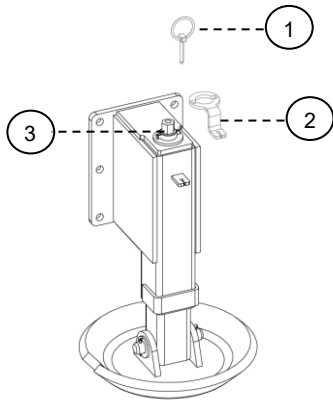
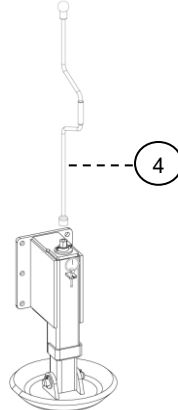
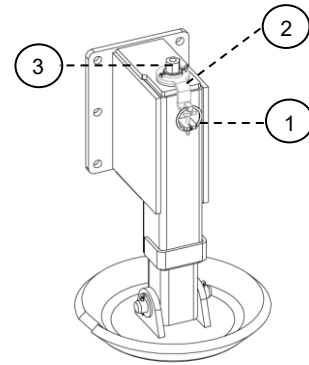

Figure 8
Figure 9
Figure 10
The UPX plough is equipped with two support plates, which can be adjusted using a crank (size NV19) to the desired position. Remove the ring pin (1) and lock plate (2) from the adjustment screw (3) before carrying out height adjustment – see Figure 8. Use the crank (4) for height adjustment $360^\circ = 5 \text{ mm}$ – see Figure 9. Restore the lock plate (2) and ring pin (1) to lock the adjustment screw (3) following height adjustment – see Figure 10.